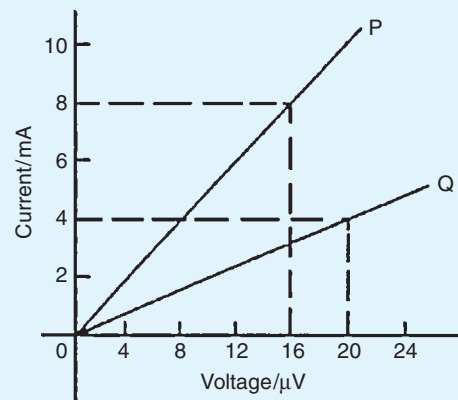

Figure 2.9
- Graphs of current against voltage for two resistors P and Q are shown in Fig. 2.9. Determine the value of each resistor. [2 m Ω , 5 m Ω]